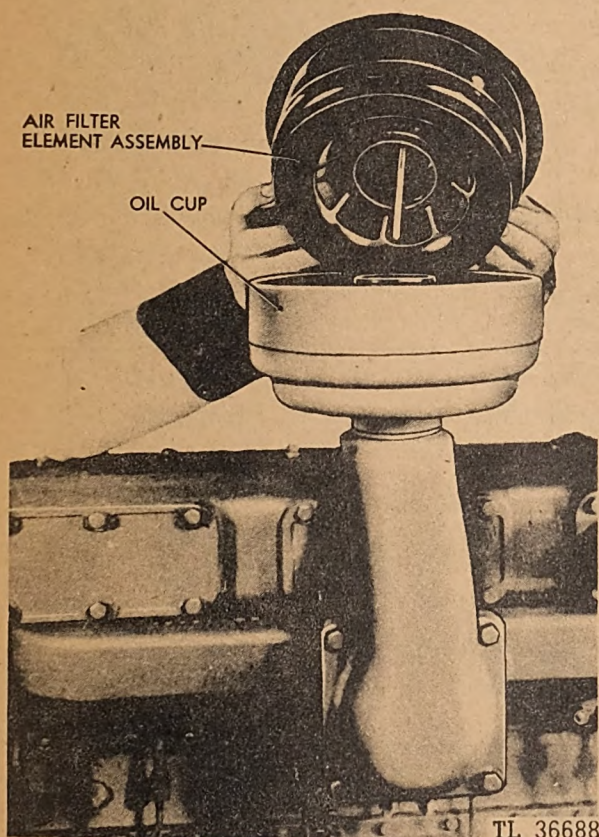

Fig. 36. Servicing Air Cleaner
(2) Check the water level. The radiator must be full. Use only clean, soft water. If the water is hard, use a commercial water softener. Check the fins and passages between the radiator tubes to be sure that they are free from any foreign material and check the fins to see that they are not bent. Straighten the fins and remove any objects that may restrict the air flow.
(3) Check the crankcase oil level with the bayonet gauge, or dipstick. The level must be maintained at the full mark. Add oil of the recommended viscosity for the prevailing temperature.
(4) Check the air filter cup and refill with fresh crankcase oil to the level indicated inside the air cleaner oil cup. (See Figure 36.) The clamp between the air cleaner and the intake manifold must be airtight so that no dirt can be sucked in through loose joints.